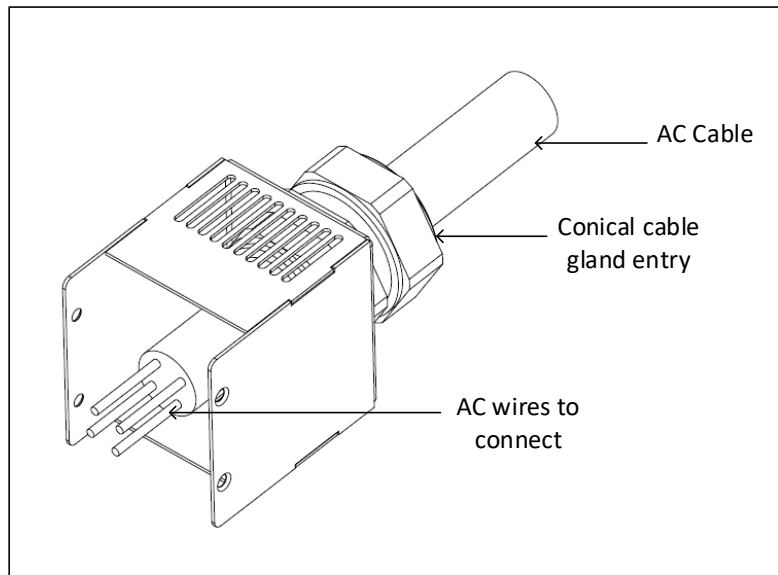

Figure 4-10: Stripped Wires Inserted Through
5. Insert the AC cable through the conic cable gland entry and the strain relief bracket as shown in Figure 4-10.